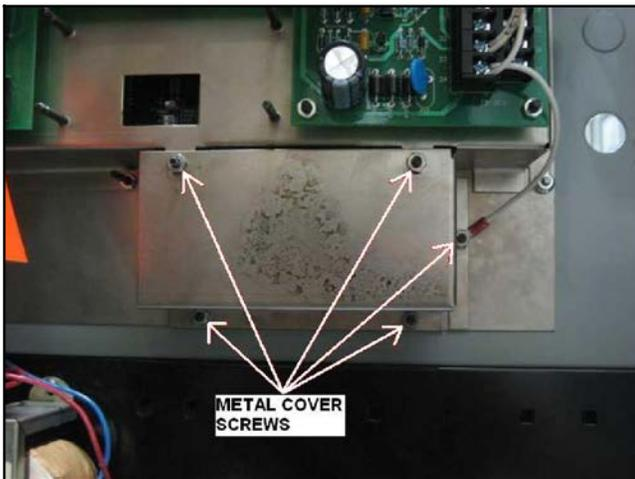

Figure 19 Remove Cover Screws
15. Remove the metal cover over the optional communication module, if present. See Figure 19.